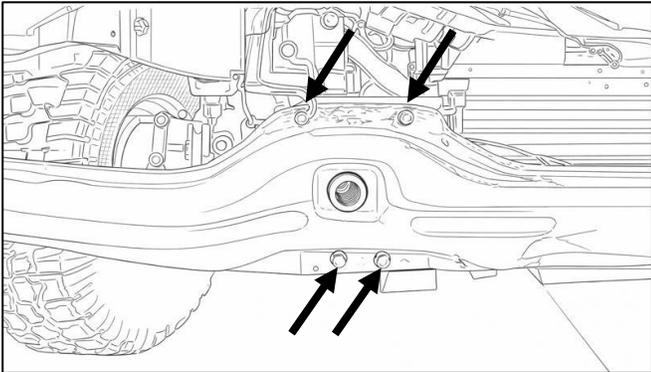

Figure 9: Stock Crossmember Bolting Location, Right Side
11.  Using a 13 MM socket, remove the (8) bolts holding the stock crossmember to the frame rail. See **Figure 9**.